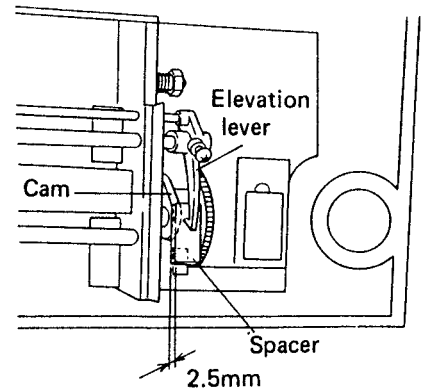

Fig. 6-1 Muting timing adjustment 1
2. Set the arm elevation switch in the up position, and insert a 2.5mm spacer in between the elevation lever and the cam (Fig. 6-1).
3. Loosen screw ❶, adjust the gap between the muting lever and the muting shaft up to 0.1mm, and then retighten screw ❶. Check that the muting lever and muting shaft are not in contact, and that the muting hence is not inclined at an angle.